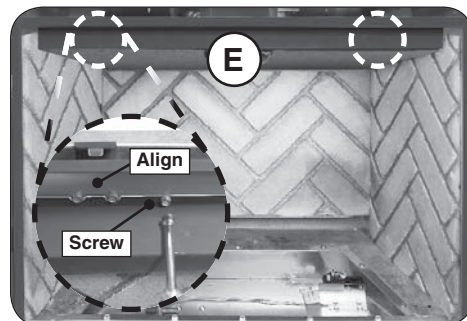

Fig. 30-3 Install lintel
10. Re-install the lintel at the top front of the unit. Use the two existing hex screws and a $\frac{5}{16}$ " nut driver. See Fig. 30-3, "E".